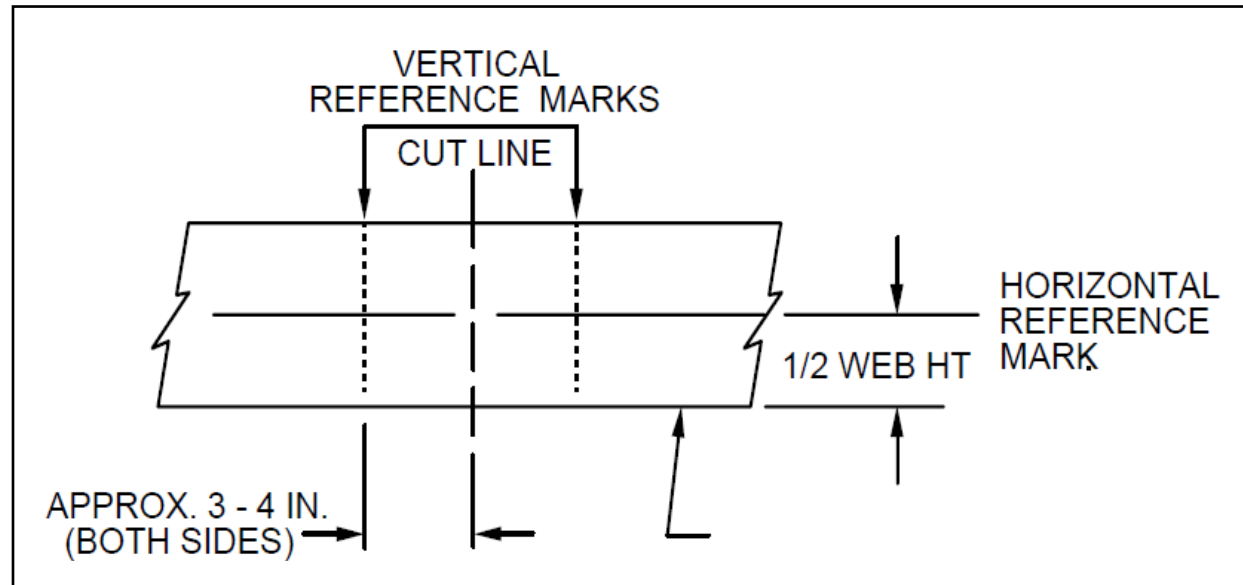

Figure 28 – Horizontal and Vertical Reference Marks
- Scribe or mark the frame for cutting (See Figure 28). All dimensions for gauging or fixturing should be recorded at this time.